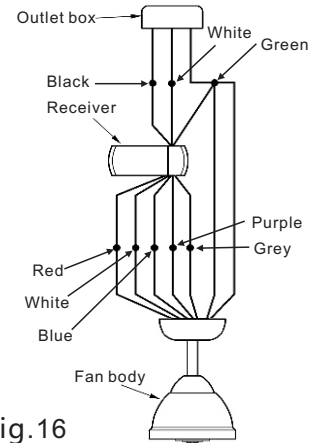

Fig.16
Step 2: Motor to Receiver electrical connections: connect the WHITE WIRE from the fan to the WHITE wire from receiver. Connect the RED wire from the fan to the RED wire from the Receiver. Connector the BLUE wire from the fan to the BLUE wire from the recelver. connect the PURPLE wire from the fan to the PURPLE wire from the receiver. Connect the GREY wire from the fan to the GREY wire from the receiver.(Fig.16)
Step 3: If your outlet box has a GROUND wire (Green or Bare Copper) connect this wire to the Hanger Ball and Hanger Bracket Ground wires. If your outlet box does not have a Ground Wire ,then connect the Hanger Ball and Hanger Bracket Ground Wires together. Secure wire connection with the plastic wire nut provided.(Fig.16)
Step 4: Receiver to House Supply Wires Electrical connections: Connect the WHITE wire from the outlet box to the WHITE wire from the receiver. Connect the BLACK wire from the outlet box to the BLACK wire from the receiver. Secure all wire connections with the plastic wire nuts provided. After all splices are made, check to make sure there are no loose strands. As an additional precaution we suggest to secure the plastic wire connectors to the wires with electrical tape.(Fig.16)